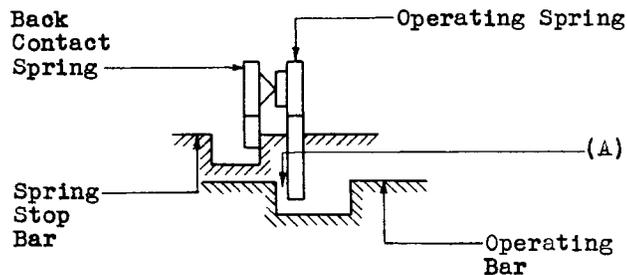

Fig. 17
**2.12 Clearance Between Operating Spring and Operating Bar or Stud on Break and Transfer Spring Combinations - Figs. 17 (A) and 18 (A) - With the operating bar in the normal position, this clearance shall be**